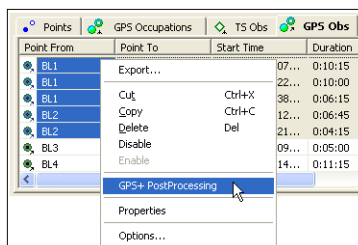

Figure 6-7. Process Selected GPS Observation(s)
2. In the *GPS Obs* tab, right-click the selected observation(s) and click **GPS+ PostProcessing** on the pop-up menu (Figure 6-7).